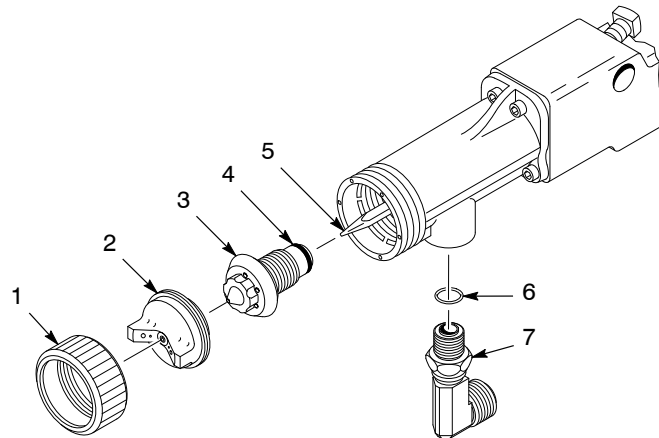

Figure 7-2 Air Cap and Fluid Tip Replacement
1. See Figure 7-2. Unscrew the retaining ring (1).
2. Unscrew the air cap (2) from the retaining ring.
3. Activate the spray gun to retract the needle (5). Place the hex in the combination tool over the fluid tip (3) hex and unscrew it from the extension.
4. Make sure the O-ring (4) is correctly installed on your new fluid tip. Lubricate the O-ring with O-ring grease.
1. See Figure 7-2. Unscrew the swivel fitting (7) and remove the O-ring (6).